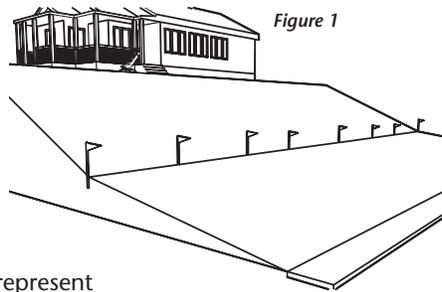

Figure 1
Step 1: To start your layout, place stakes to represent the location of the front of the wall. Using a string line or paint, mark out the entire length. A garden hose is an excellent tool to use when laying out curved walls. See Figure 1.